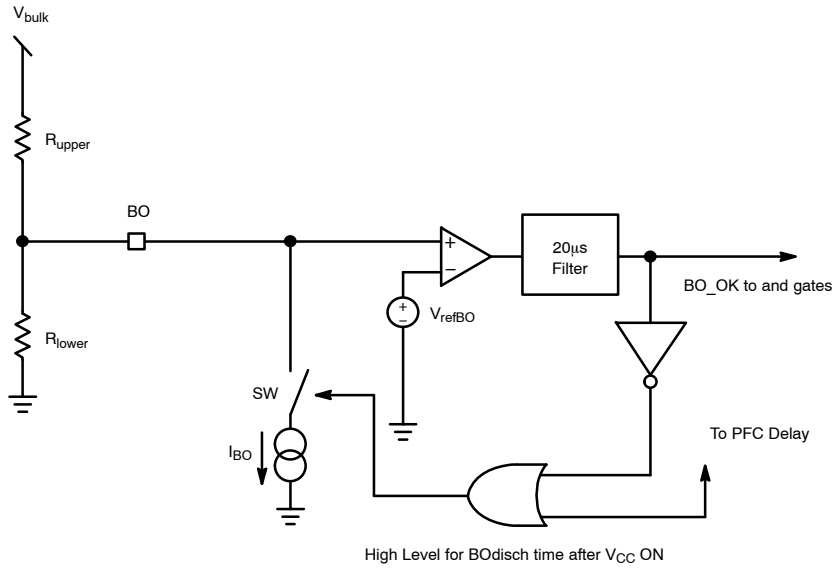

Figure 30. The internal Brown-Out Configuration with an Offset Current Sink
The Brown-Out circuitry (BO) offers a way to protect the application from low DC input voltages. Below a given level, the controller blocks the output pulses, above it, it authorizes them. The internal circuitry, depicted by Figure 30, offers a way to observe the high-voltage (HV) rail.